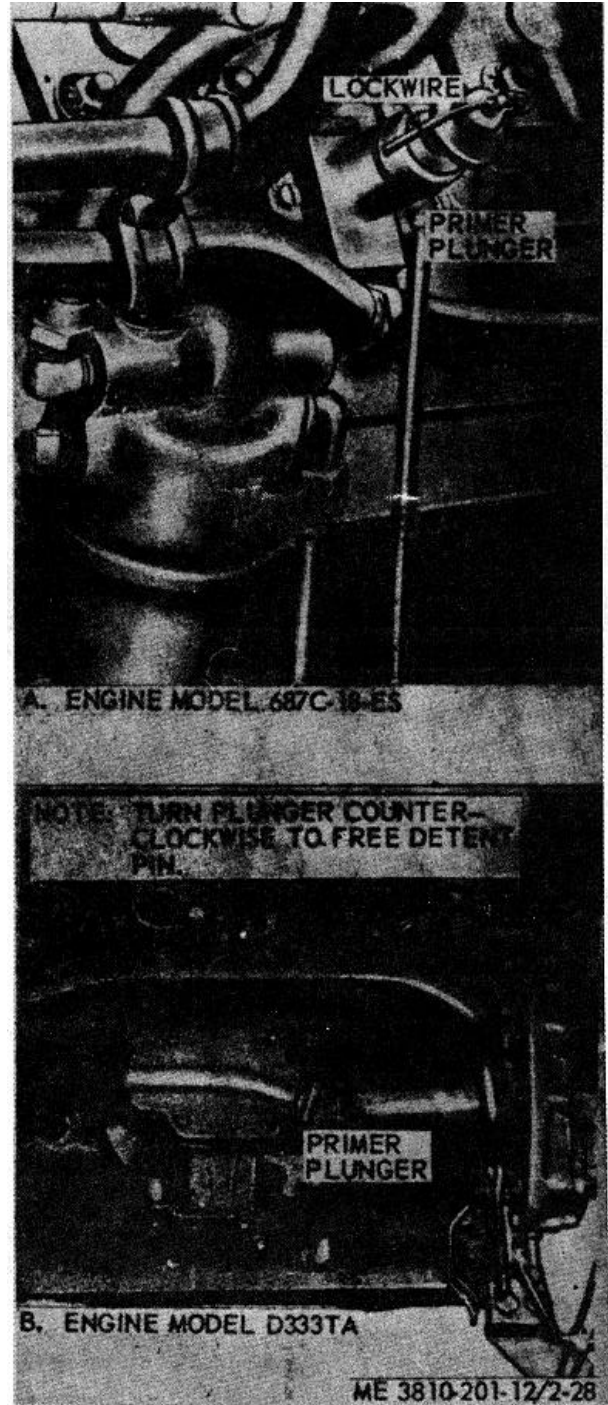

Figure 2-28. Primer pump.
ap. Primer Pump. This pump (fig. 2-28) on engine model 687C-18-ES (view A), D333TA (view B) is used as starting aid in temperatures below -40°F, or after a prolonged idle period. Releasing plunger and pumping in and out a few strokes, fills fuel filter and lines, so that fuel transfer pumps will be able to instantly send fuel to injectors.
(4) If engine has not been run for several days, prime fuel system with primer pump (fig. 2-28).